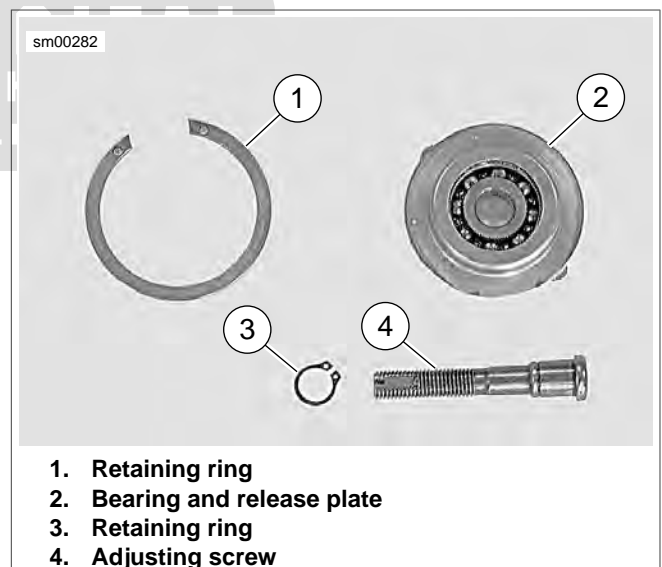

Figure 5-25. Adjusting Screw Assembly
- See Figure 5-25. Remove adjusting screw assembly.
- Remove large retaining ring (1).